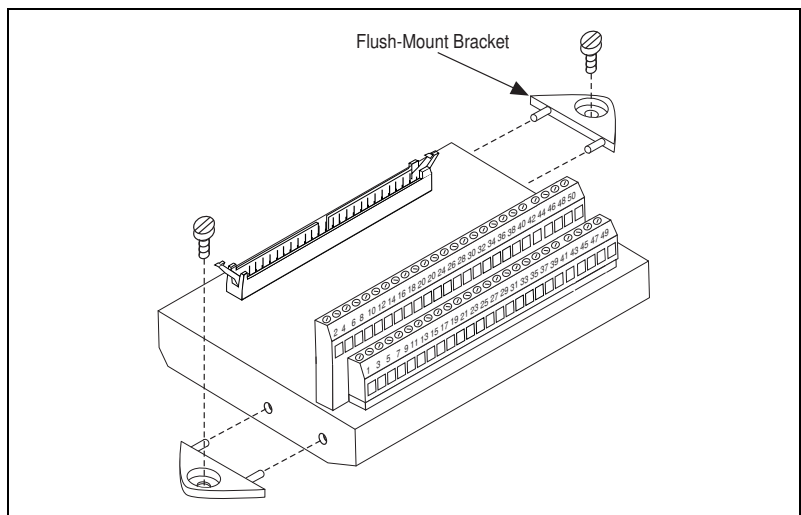

Figure 4. Inserting the Flush-Mount Brackets
- For flush mounting, insert the flush-mount brackets into the connector block base as shown in Figure 4.